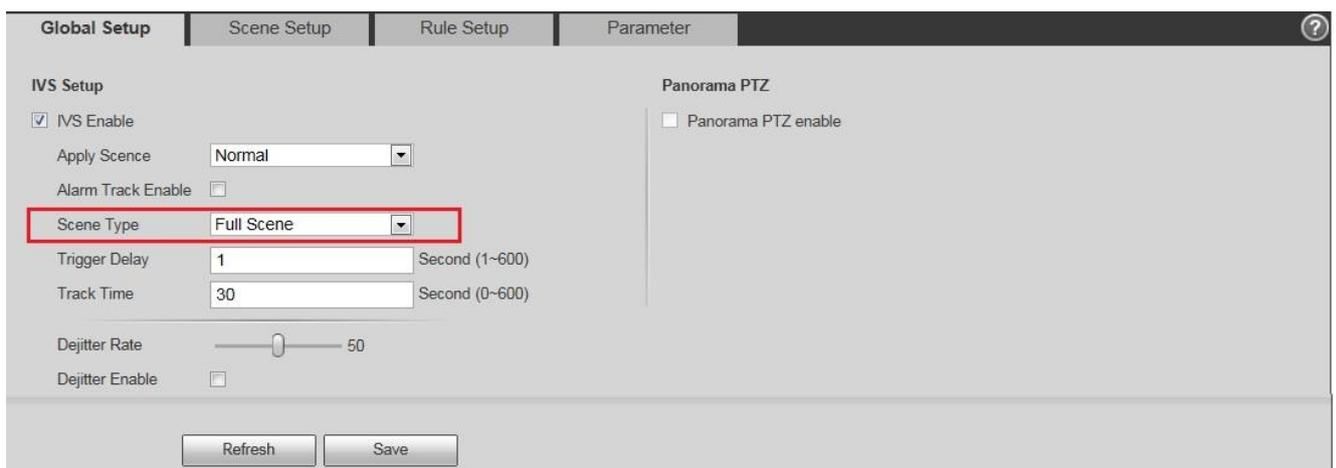

Figure 3-6
- Please set the track parameter. See Figure 3-6. Click the save button to complete the setup. You can see system prompts a dialogue box "Save succeeded" to remind you.